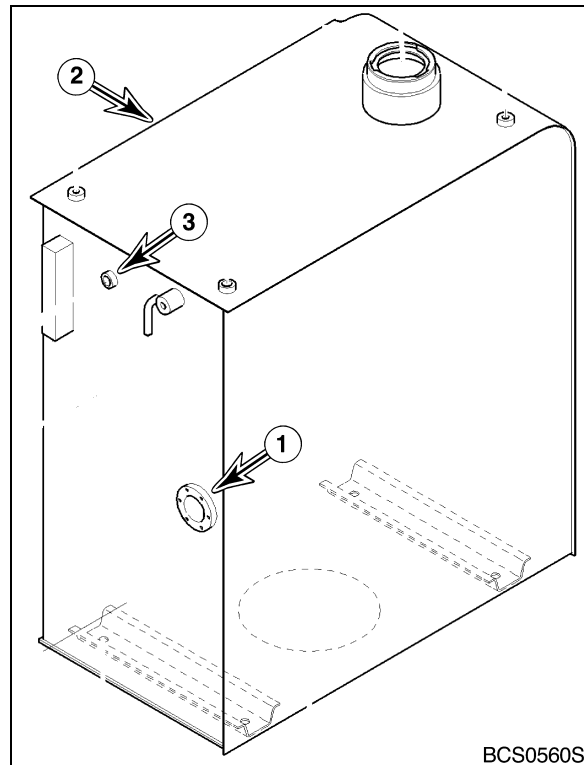

Figure 15
8. Connect wires as tagged to fuel sensor (1, Figure 15) on side of fuel tank (2).
9. If equipped, connect components to the fuel filler pump port (3, Figure 15) on side of fuel tank (2).